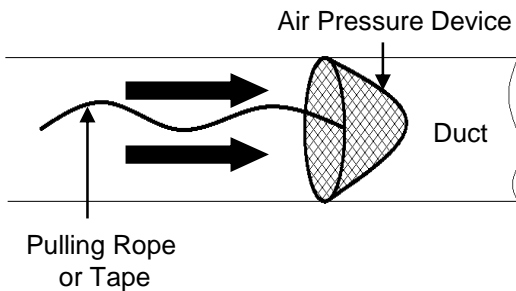

Figure 14
15.1.3 If air-blowing method is used, pulling rope is attached to an air pressure device and blown through the duct until it reaches the adjacent maintenance hole. **See Fig. 14.**